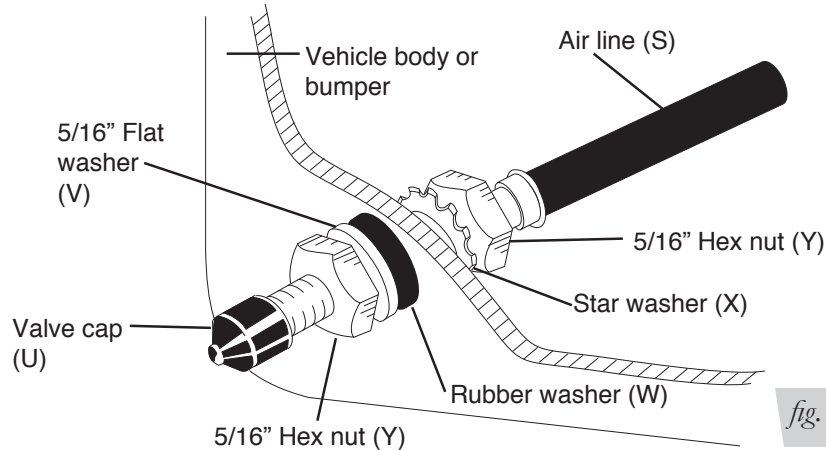

fig. 20
4. Place a 5/16" nut and star washer (X) on the air valve. Leave enough of the inflation valve in front of the nut to extend through the hole and have room for the rubber washer (W), flat washer (V), and 5/16" nut (Y) and valve cap (U). There should be enough valve exposed after installation — approximately 1/2" — to easily apply a pressure gauge or an air chuck (fig. 20).